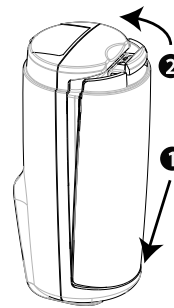

Figure 17: Closing the battery cover
5. To close the battery compartment, insert the bottom section of the battery cover first and then press and hold the snap while closing the top part of the cover. See Number 1 and Number 2 in Figure 17.